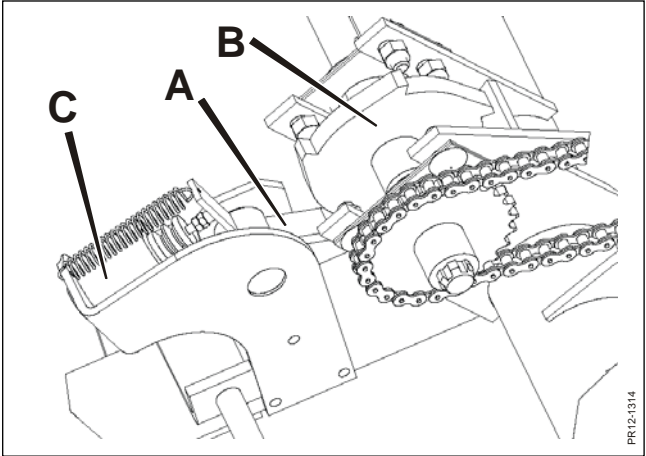

Fig. 5-3
**Fig. 5-3** When the metal has been detected, a signal will be sent so that there is voltage on the magnet coil **C**. Hereby the pawl **A** is activated and is engaged with the ratchet wheel **B** and the feed intake is blocked immediately.